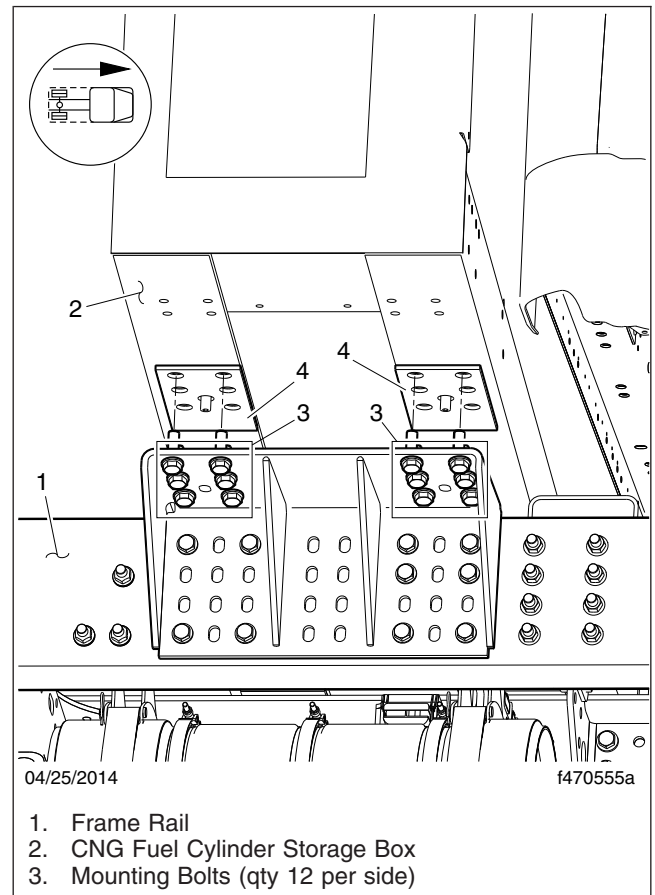

Fig. 10, Fuel Cylinder Storage Box Mounting Bracket (passenger side shown)
1. Ensure that the fuel cylinder storage box is secured to the frame. Inspect for any signs of looseness. If necessary, tighten the storage box mounting bolts 160 lbf-ft (217 N·m). See Fig. 10.
NOTE: During initial pre-delivery inspection (PDI), tighten the storage box mounting bolts (shown in Fig. 10) 180 lbf-ft (244 N·m).